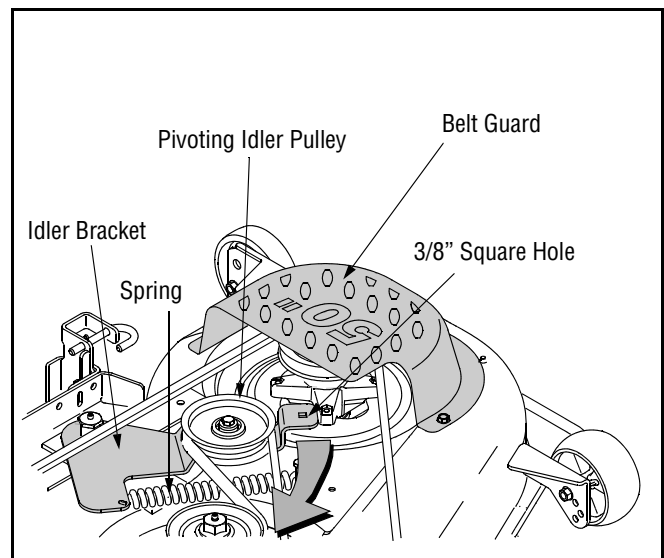

Figure 20
- To ease in removing the belt in later steps, loosen, but do not remove, the bolt which secures the pivoting idler pulley to the idler bracket. See Figure 20.
- Insert a 3/8"-drive ratchet wrench (set to *tighten*) into the square hole found in the idler bracket on the left side of the deck's surface. See Figure 20.